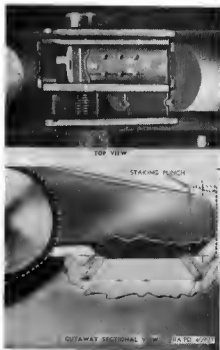

Figure 73. Rear sight showing staking.
- (1) If reading is below 18 inch-pounds indent the area in front of the dovetail slot. This can first be done by using punch 7312234 (Fig. 73) and rapping punch with a hammer. Undertake this operation with extreme caution. A blow only hard enough to cause a flow of metal into the dovetail slot is necessary.
Note. The staking operation is extremely critical and success of this operation will depend largely upon the skill and judgment of the operation (Fig. 73). Bear in mind that the sharp upper edges of the dovetail slot on the receiver are easily chipped or cracked, and such damage will ultimately result in an unserviceable weapon. Many problems will arise which will have to be solved by the individual mechanic; a few of these problems and their remedies are listed in (1) and (2) below.
- (1) Indents on sight base dovetail may be horizontally misaligned with references to holes in sight base. If the indents are slightly out of horizontal alignment they may be corrected by enlarging the indents vary slightly with a small three-square file.